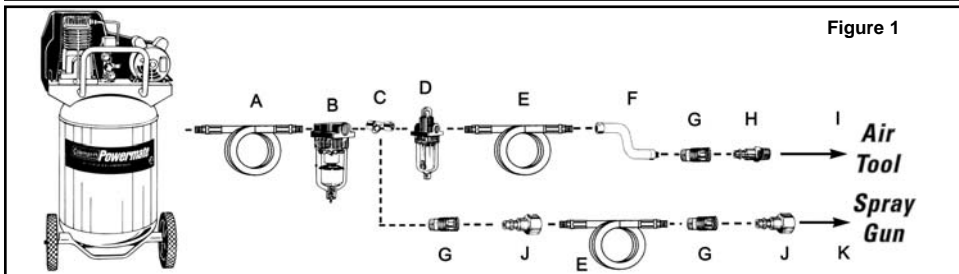

Figure 1
- For non-adhesive backed sandpaper;** Install the sandpaper by lifting one of the sandpaper clamp handles (A). Insert one end of the sandpaper under the teeth (B). Push the sandpaper clamp handle down to lock the sandpaper in place. Do the same on the opposite end of the tool.
- Connect the tool to the air hose quick coupler. **NOTE: It is recommended that a whip hose with a swivel (P012-0079SP - not included) be used to prevent twisting, kinking, and excessive wear to the air hose (see figure 1 for recommended connections).**
To maintain the maximum performance of the air tool, it must be lubricated each time it is used. Dust, dirt, rust and oil residue will build up inside the tool and reduce the performance. An in-line oiler is recommended for proper automatic tool lubrication (see Figure 1). If an in-line oiler is not available, the tool can be lubricated manually through the inlet port (see Figure 4).